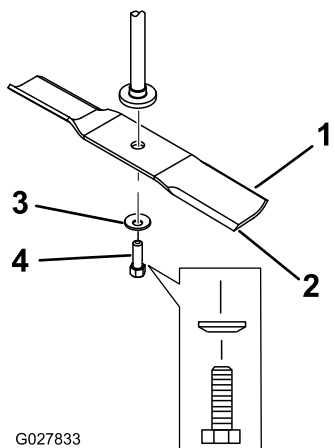

Figure 65
2. Remove the blade bolt, curved washer, and blade from the spindle shaft (Figure 65).
1. Install the blade onto the spindle shaft (Figure 65).
2. Install the curved washer (cupped side toward the blade) and the blade bolt (Figure 65).